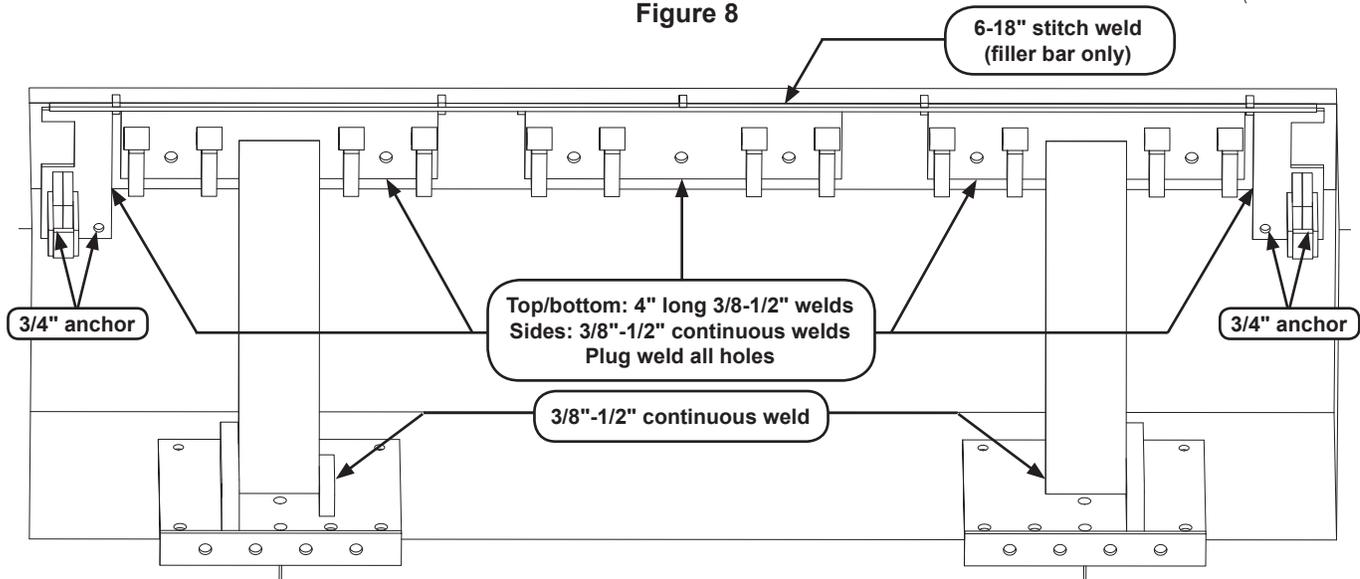

Figure 9
8. Anchor storage prop pocket weldments using four (4) 3/4" x 5-1/4" min. wedge anchors. Torque all anchors to the vendor specifications. See Figure 9.
9. Weld all components as shown in Figure 9: